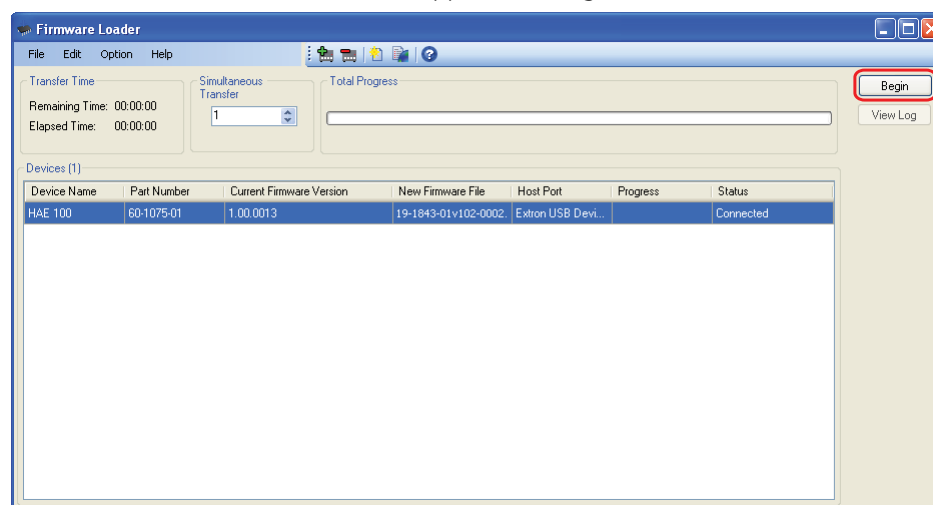

Figure 9. Firmware Loader Main Window
4. The main Firmware Loader window appears (see figure 9).